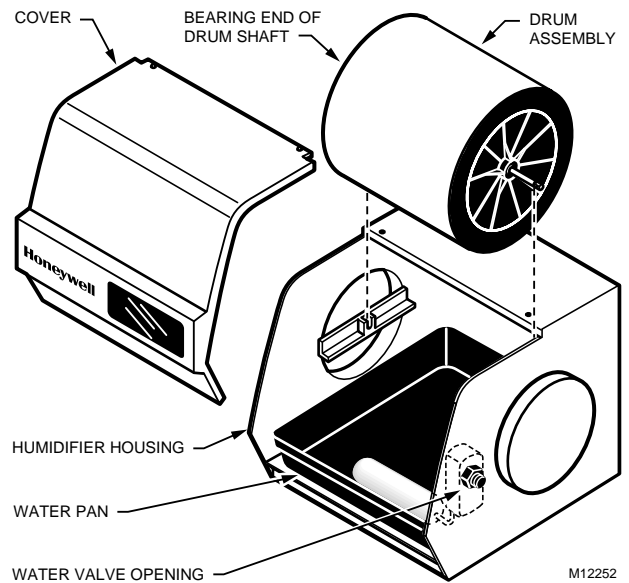

Fig. 5. Location of humidifier parts.
2. Remove the humidifier cover by lifting up the bottom of the cover. See Fig. 5.